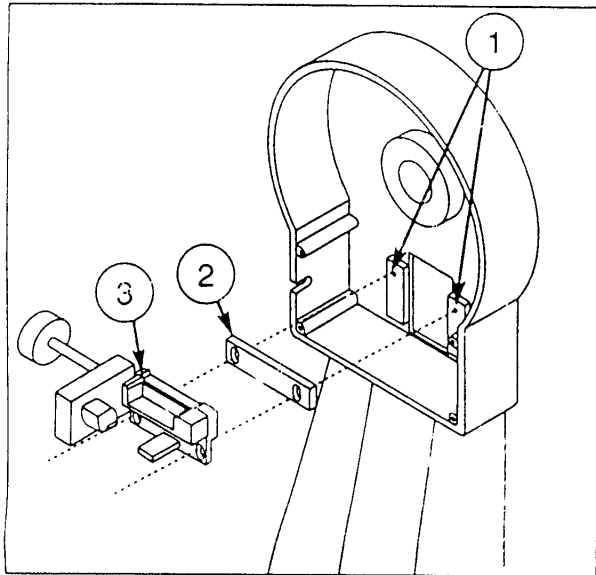

Fig. 8: Mounting the Dec. Motor.
8. Check the mounting pad inside the fork arms, as described on page 2. If necessary, position the motor mounting plate (2, Fig. 8) such that it fits onto the "step" on the motor hinge; center this assembly over
the two mounting holes. If the mounting plate is not needed, position the Dec. motor assembly (3, Fig. 8) such that its two mounting holes match the threaded holes in the fork arm Dec. housing.